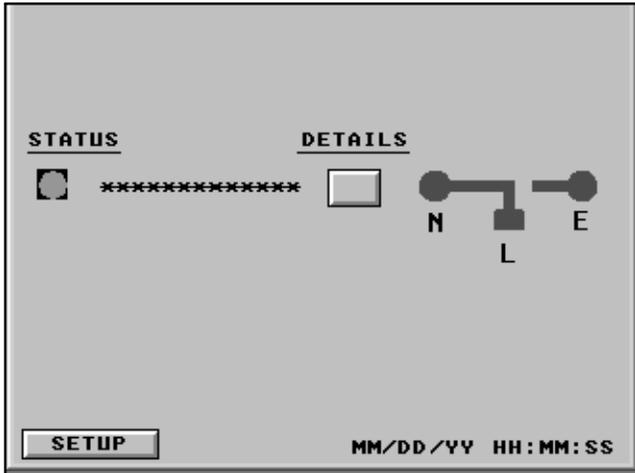
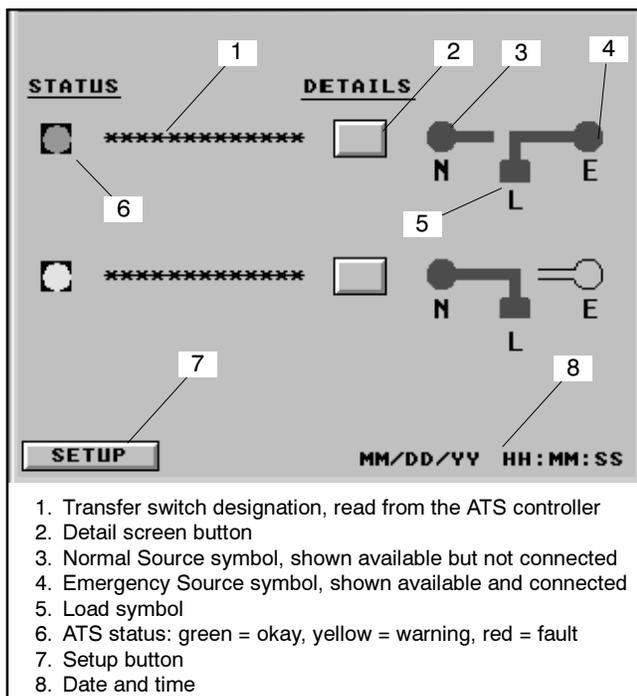
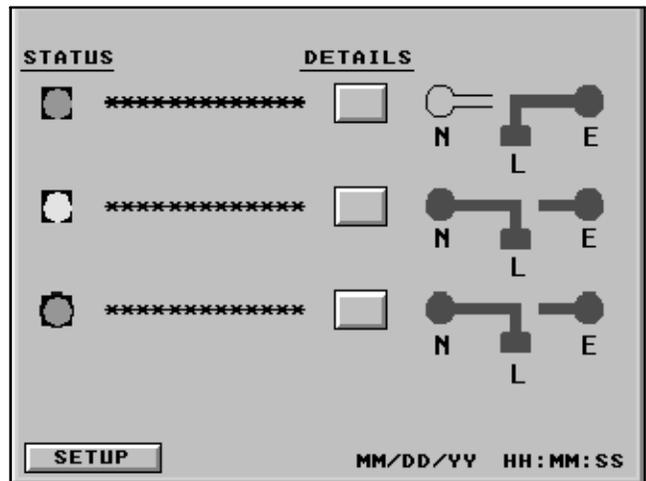
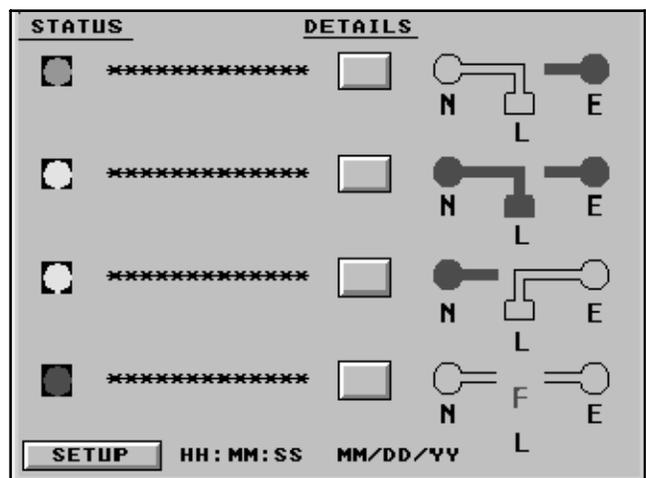

Figure 10 Summary Screen, One ATS
Figure 13 Summary Screen, Two Transfer Switches
Figure 14 Summary Screen, Three Transfer Switches
Figure 15 Summary Screen, Four Transfer Switches
- At initial startup, the annunciator assumes that one transfer switch is connected. The annunciator goes through an automatic startup sequence and then a summary screen similar to that shown in Figure 10 appears.
12. Verify that the Summary Screen now displays the status of each connected transfer switch. See Figure 13, Figure 14, and Figure 15.
The Summary Screens show the following information for each transfer switch. See Figure 10, Figure 13, Figure 14, and Figure 15.
If there is no solid line from the load symbol to either source and the letter F is displayed between the source symbols, a fault is indicated. The contactor position is unknown. Refer to the transfer switch literature to diagnose and correct the fault. See Figure 15 for an example of a status screen indicating this type of fault.